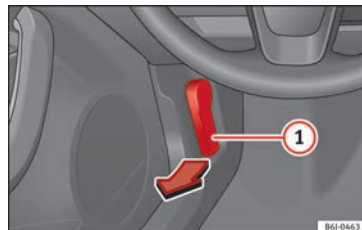

Fig. 5 Release lever in the driver's footwell area.
- Opening the bonnet: Pull the lever under the dashboard » **Fig. 5** ①.